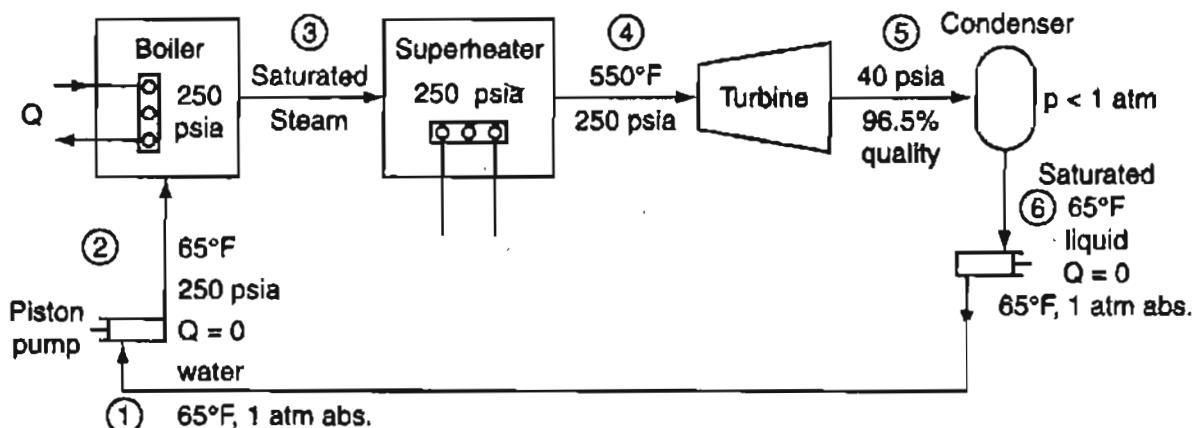

Figure P24.36
- ✓***24.36 A power plant operates as shown in Figure P24.36. Assume that the pipes, boiler, and superheater are well lagged (insulated), and that friction can be neglected. Calculate (in Btu/lb steam):